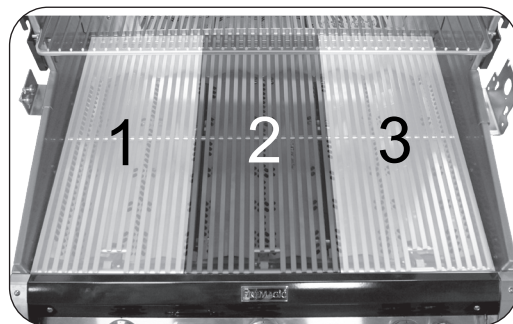

Fig. 28-2 Cooking zones detail
Your grill is divided into three cooking zones, each corresponding to a burner. Burners are numbered starting at one (1) on the left, going to three (3) on the right (see Fig. 28-2). The cooking zones are monitored by the digital thermometer - see DIGITAL THERMOMETER section.